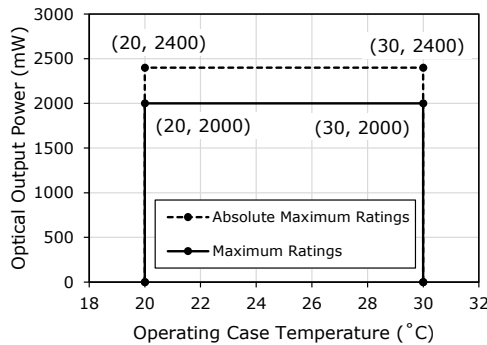

Figure 1. Derating Characteristics
2 The maximum rating provided in Figure 1 should not be exceeded.
- This LD is a semiconductor device that has a high current density during operation in the emission layer. Exceeding the Absolute Maximum Ratings may damage the LD. The circuit must be designed to ensure that the Absolute Maximum Ratings (see Absolute Maximum Ratings and Figure 1) are not exceeded even if the LDs are operated only for a short period of time.
- Since the lifetime of the LD will become shorter as the operating current and/or the optical output power become larger, the maximum ratings provided in Figure 1 should not be exceeded.